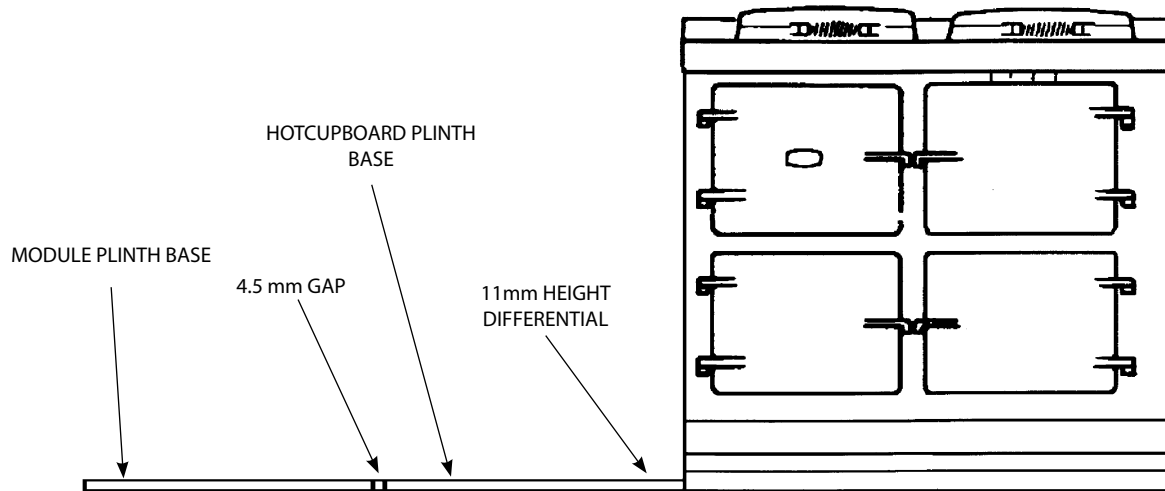

Fig. 10.4
8. Also check height differential between the Module plinth and AGA Total/Dual Control plinth is correct: 11 mm. If necessary, use the adjusting studs in each corner to level the plinth. In extreme instances, shims may be used underneath the plinths (See **Fig. 10.3** or **Fig. 10.4**).